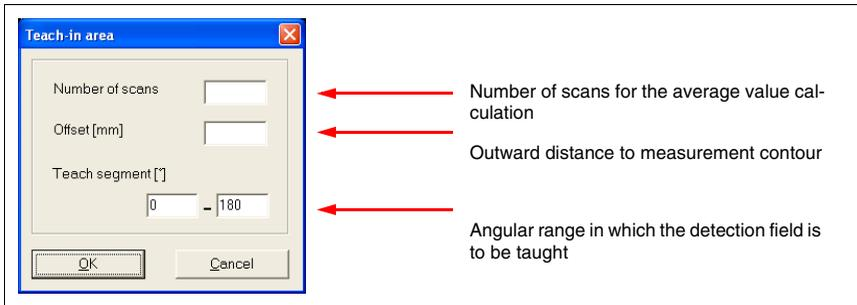

Figure 6.12: Input window for teaching-in detection field
- Enter the desired values for the **Number of scans**, **Offset** and **Teach segment** (see figure 6.12) for teaching-in the detection field and confirm with **OK**. The teach event begins and progress is displayed in a window.